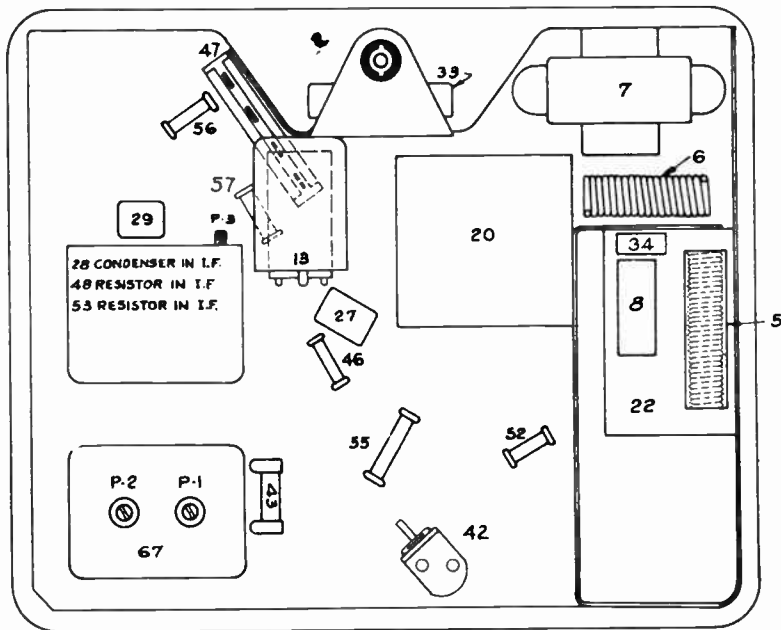

FIG. 2 PARTS LAYOUT - Bottom View
- (d) Peak the I.F. trimmer P-3 for the 2nd I.F. coil shown on Figure 2.
- (e) Then peak trimmers P-2 and P-1 of the first I.F. coil also shown on Figure 2.
- (g) Readjust the parallel trimmers for the "R.F." and "ANT" sections of the gang condenser (shown on Fig. 2) for maximum output. DO NOT disturb the oscillator trimmer (middle section) as this is adjusted at 1530 K.C. only, and any further adjustments at this point will affect both the tuning range of the receiver and the tracking of its circuits.